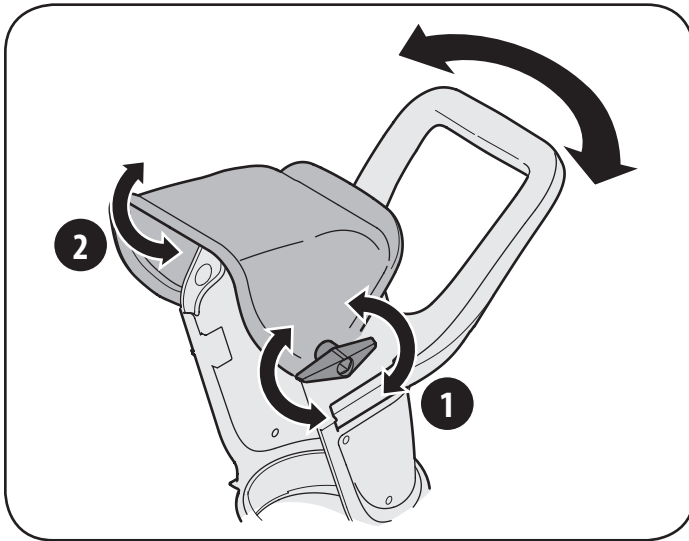

Figure 7
2. Adjust chute and chute control to desired operating position. Tighten the wing knob on the upper chute making sure the carriage bolt is correctly positioned. Refer to Figure 7.